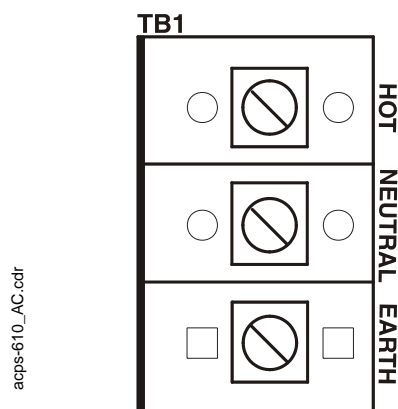

Figure 2.9 AC Power Connection
2. Open the plastic insulating cover on TB1 on the KAPS-24 (see Figure 2.9).